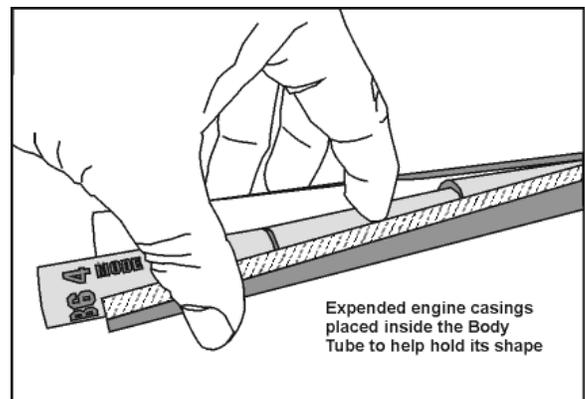

Figure 9
9. Getting back to the Body Tube, remove the Body Tube from the tube you placed it in from Step 3. You will notice that the Body Tube will retain its shape. Referring to **Figure 9**, insert engine casings into the Body Tube (4 casings will fill the entire Body Tube and will result in the best construction). Run a bead of glue along the full length of the glue tab and smooth it out to cover the whole glue tab. **NOTE:** Be very careful **NOT** to get any glue on the engine casings!